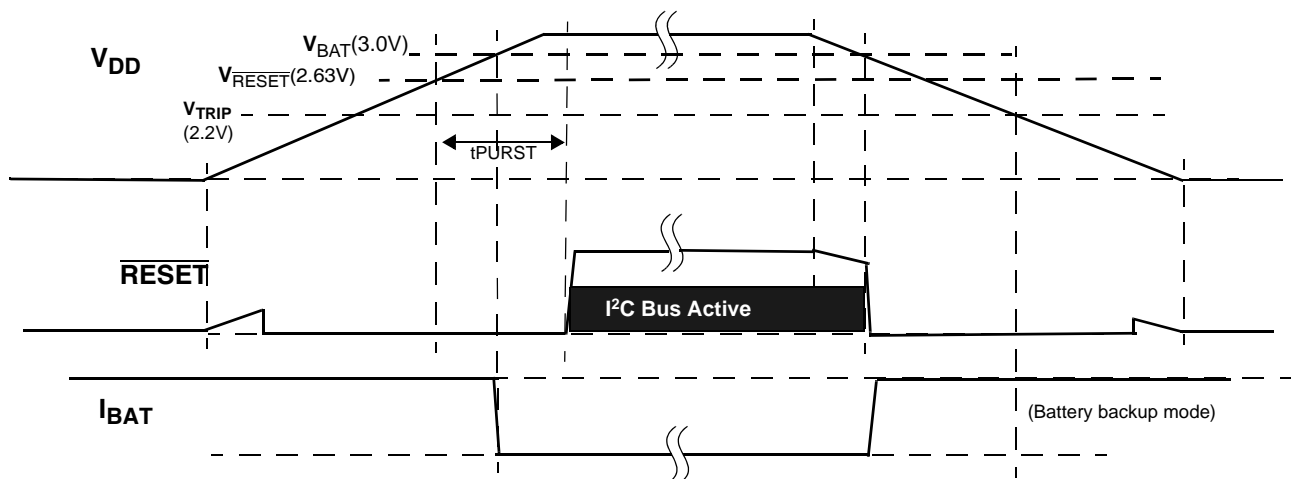

FIGURE 30. RESET OPERATION IN MODE D
- Mode D - In this mode the selection bits indicate switchover to battery backup at  $V_{\text{DD}} < V_{\text{BAT}}$ , and no I2C communications in battery backup. This mode is unique in that there is I2C communication as long as  $V_{\text{DD}}$  is higher than  $V_{\text{RESET}}$  or  $V_{\text{BAT}}$ , whichever is greater. This mode is the safest for guaranteeing I2C communications only when there is a Valid  $V_{\text{DD}}$ . (see Figure 30)